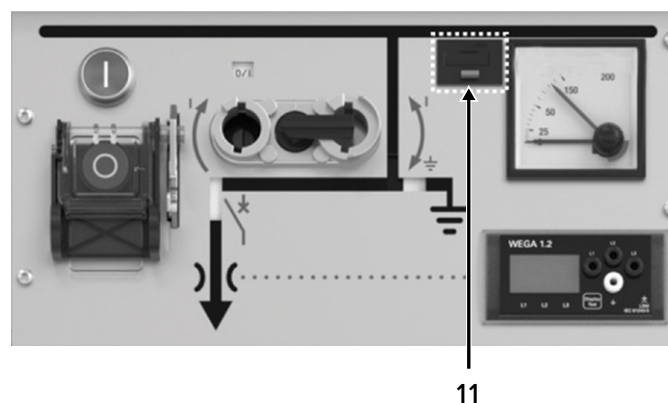

Figure 4-30: Trip indicator
The trip indicator (11), see figure 4-30, indicates whether the protection relay has switched off the circuit breaker.